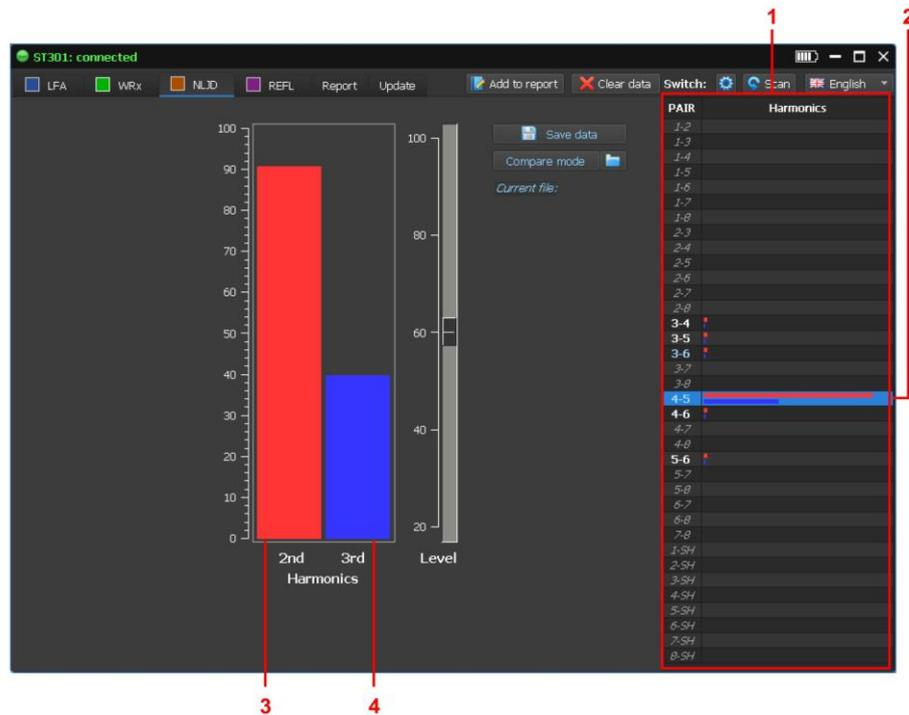

Fig.75
table (Fig. 75, item 1) opposite the corresponding pair. Red indicates the level of the second harmonic, blue indicates the level of the third harmonic. After testing all wire combinations, the scan will end.
- To view an enlarged image of the responses (Fig. 75, item 3 and item 4), set the tabular cursor (Fig. 75, item 2) on the row with the desired combination of wire pairs.